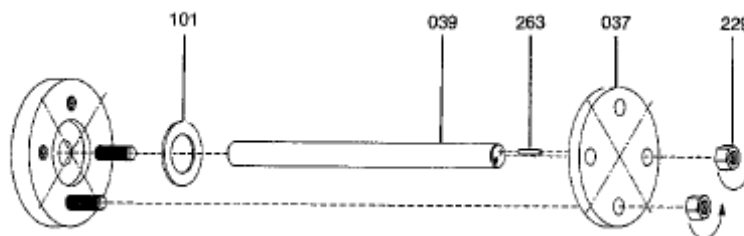

FIGURE 13
5.1.2.1.3 Blind Flange Cover (Fig 13)